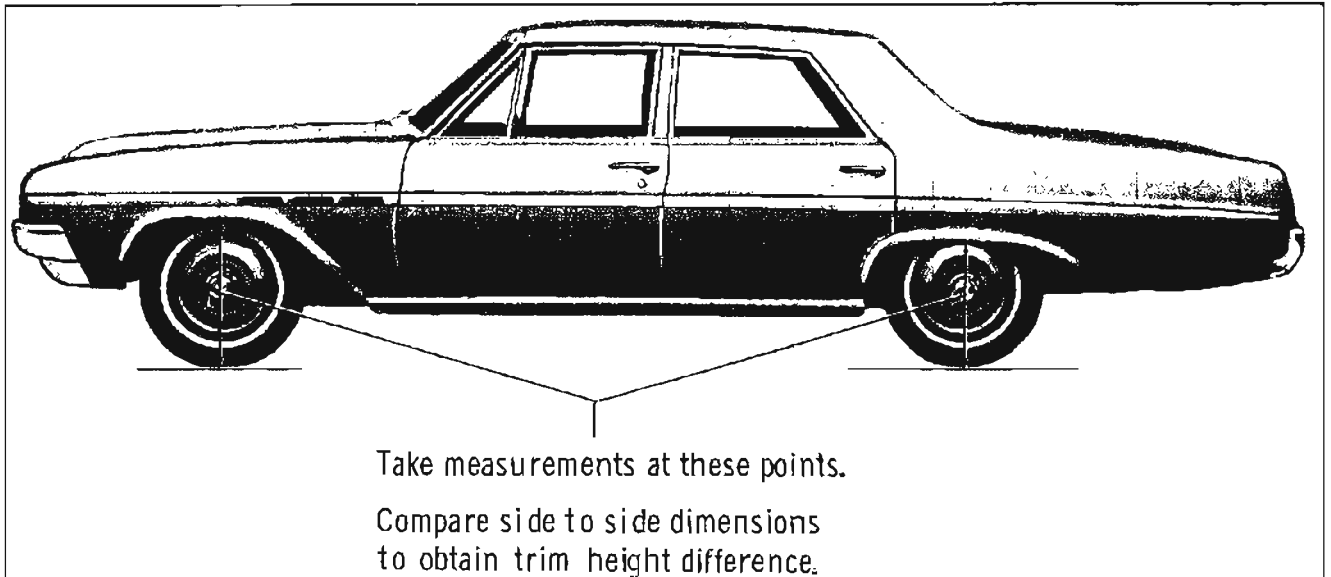

Fig. 7-23—Locations for Checking Side to Side Trim Height Dimensions
3. When checking side to side differences in trim height at the front, take measurements at the front wheel house openings as shown in Figure 7-23.
4. When checking side to side differences in trim height at rear, take measurements at rear wheel house openings as shown in Figure 7-23. If shimming is required, see paragraph 7-23.